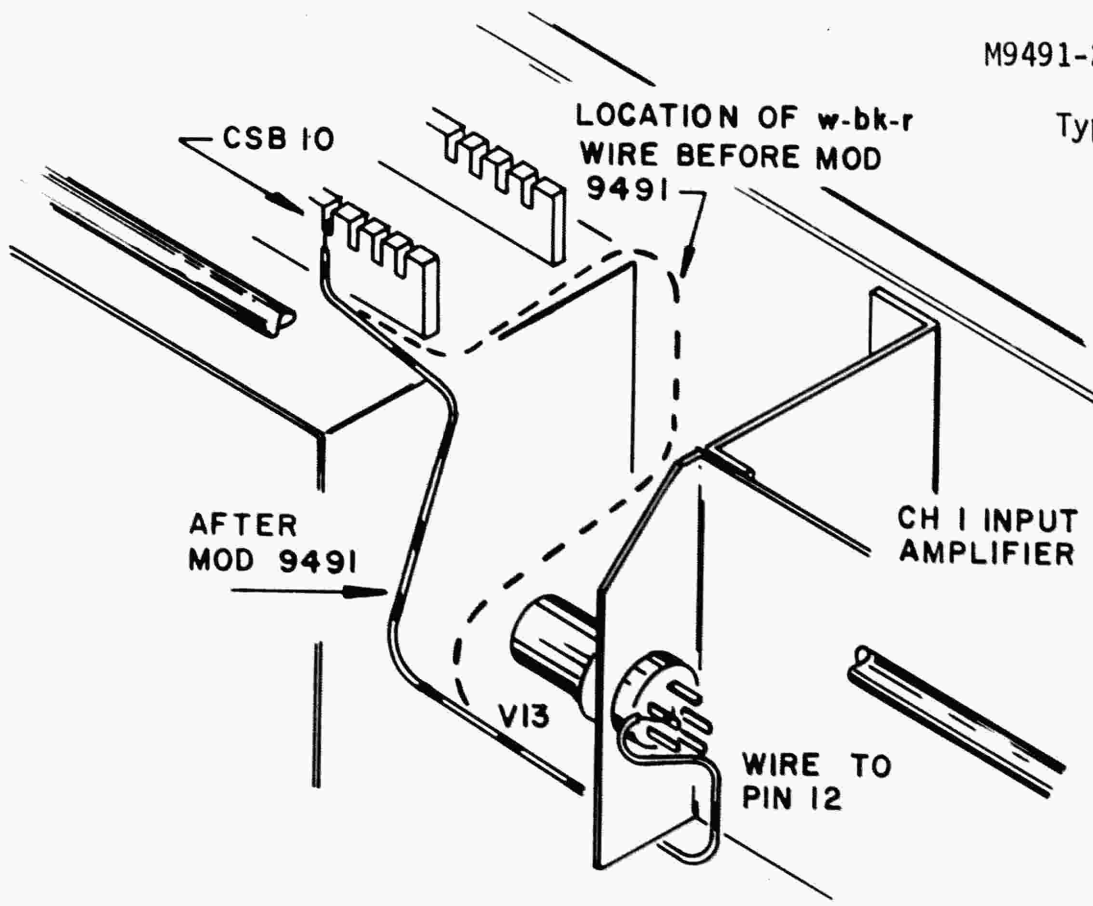

FIG. 1
- Unsolder the white-black-red wire from pin 12 of V13 and ceramic strip notch CSB-10. See Fig. 1.
- Install a new 5-1/2inch #26 stranded white-black-red wire between CSB-10 and pin 12 of V13, referring to Fig. 1 for the proper routing and dress.